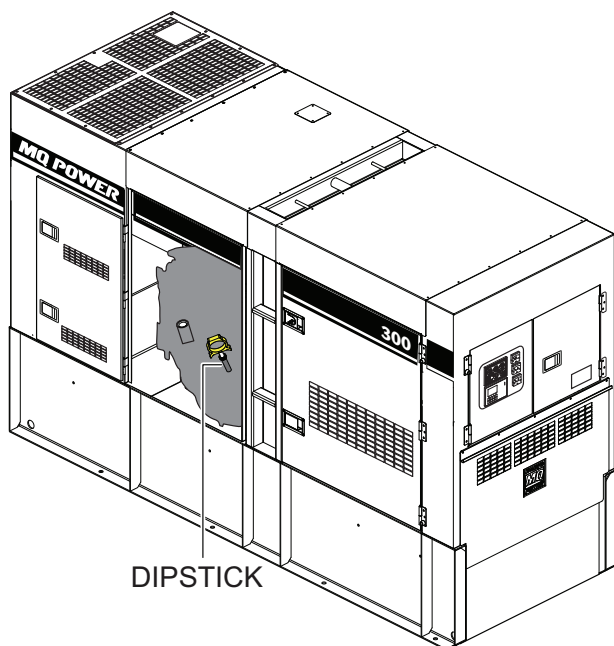

**Figure 34. UVWO Terminal Lugs
2. Connect the load wires to the UVWO terminals as shown in Figure 34.